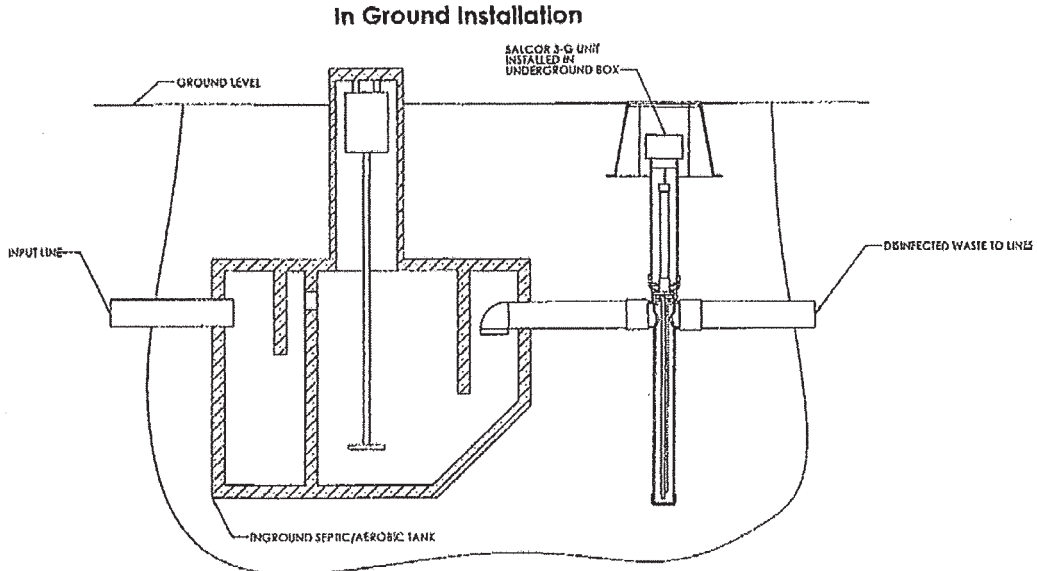

Figure 2
1. In the ground: couple the 4-inch inlet to the exit pipe of the pretreatment unit, and couple the 4-inch outlet to the drain field pipe. See *Figure 2*.